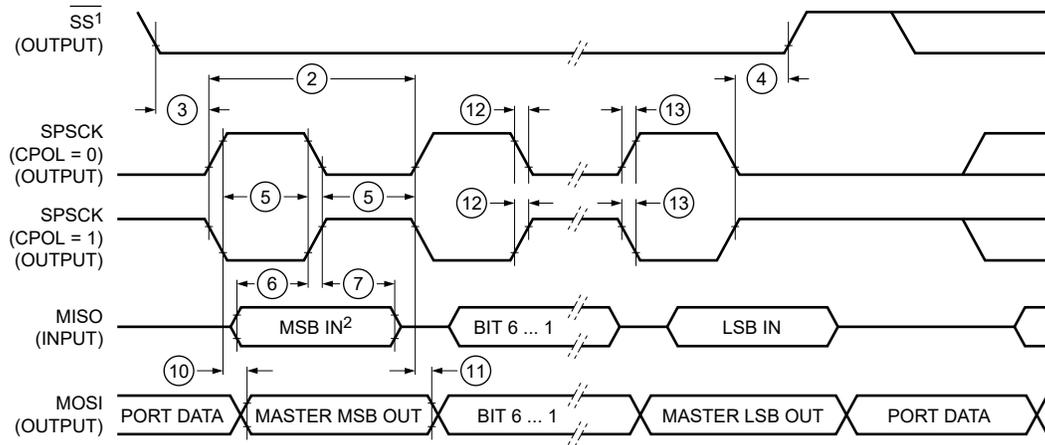

Figure 30. LPSPI Master Mode Timing (CPHA=1)
1. tDIG_L and tDIG_H are the clock Low and High periods as seen at the receiver end of the I3C Bus using VIL and VIH (see Figure 30)